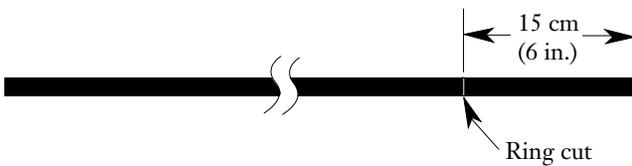

Figure 14
6.1 Use the hook blade to carefully make a ring cut 15 cm (6 in.) from the end of the sheath (Figure 14) – Use care to avoid damaging the buffer tubes.